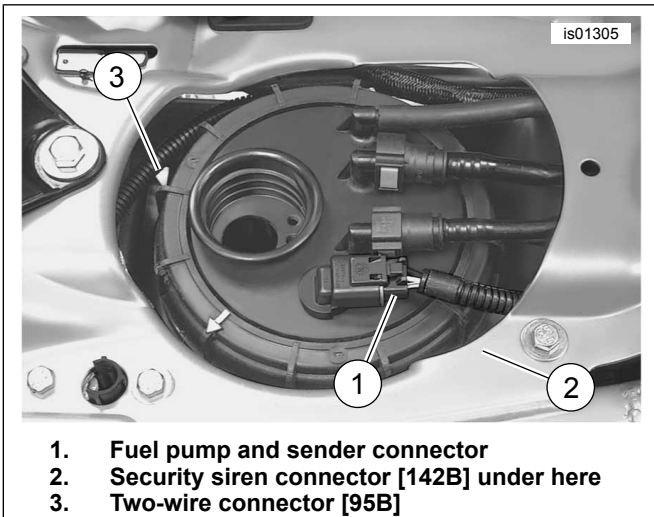
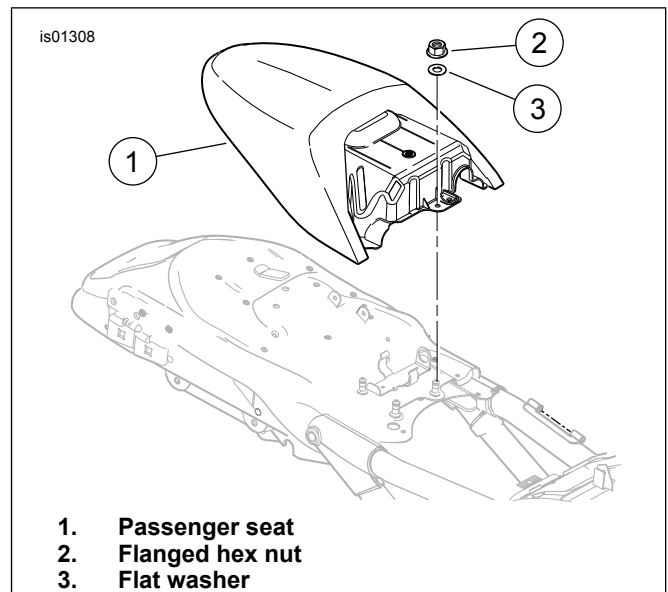
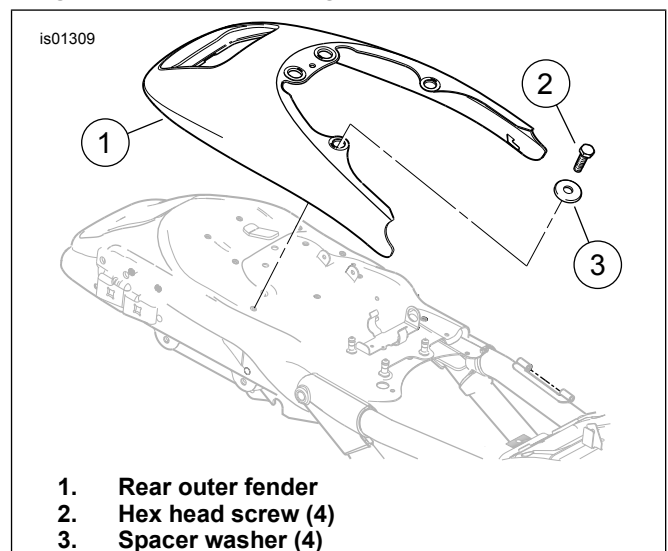

Figure 6. Locate Connector [142B] (All 2002-2006 VRSC Models) (Shown with Fuel Cap and Filler Boot Removed)
Figure 9. Remove Passenger Seat (2006-2007 VRSCR)
Figure 10. Fender Mounting Fasteners (2006-2007 VRSCR)
8. See Figure 6. Locate security siren connector (2) at end of harness lead that wraps around top of fuel tank.
- a. Disconnect fuel pump and sender connector (1) to free security siren connector.
6. See Figure 6. Locate security siren connector (2), at end of harness lead that wraps around top of fuel tank.
7. See Figure 9. Remove flanged hex nut (2) and flat washer (3).
8. Remove seat (1).
9. See Figure 10. Remove rear outer fender (1).
- a. Remove four hex head screws (2) and spacer washers (3).